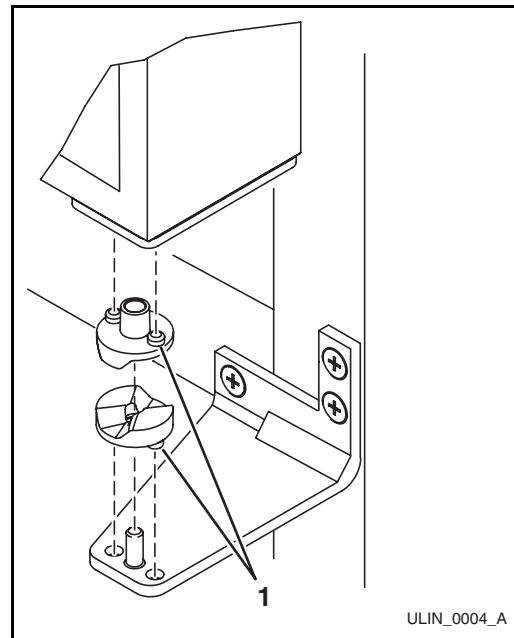

Figure 18
5. After adjustment is complete, remove the door closers from the bottom hinge, clean thoroughly and apply petroleum jelly to the mating surfaces of the closers. Be sure that bosses on closers (**Figure 18, 1**) align with holes in the door and bottom cabinet hinge plates. Mount door and install top hinge pivot pin.